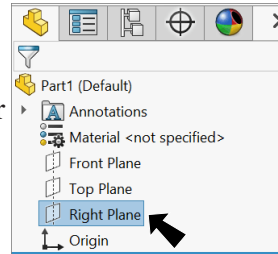

Fig. 1
Step 2. Click **Right Plane** in the Feature Manager to display Plane in graphics area, **Fig. 1**.